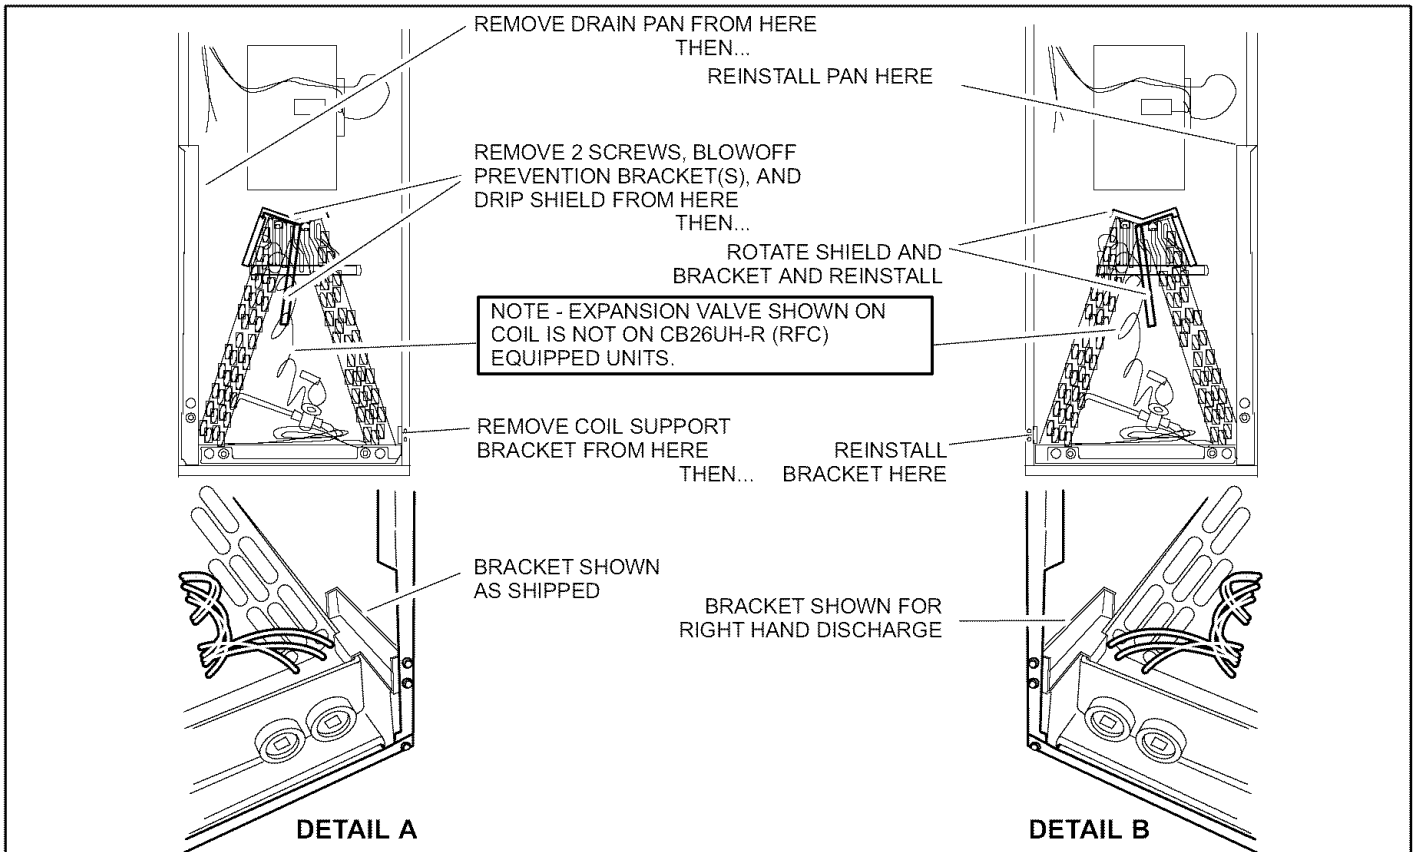

Figure 4. Field Modification for Right-Hand Discharge
2. Remove the coil support bracket (detail A, figure 4).
- Install the coil support bracket on the opposite side of the air handler (detail B, figure 4).